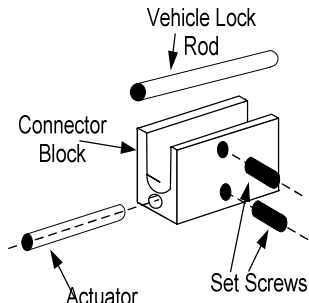

Fig. 3. Rod and Connector Block Assembly
4. Insert the vehicle lock rod and actuator rod into the supplied connector block as shown in Fig. 3 & Fig. 4. After ensuring there is adequate allowance for the movement of the connector block assembly, tighten the set screws.